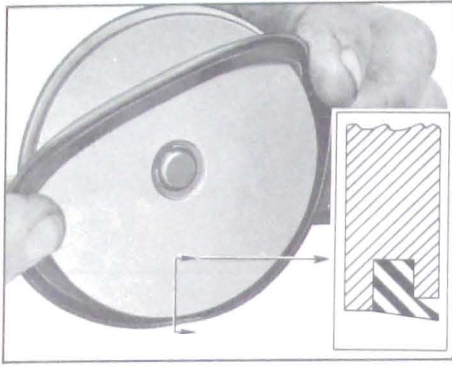

Figure 5-75—Installation of Servo Piston Seal
4. Worn or damaged piston seals should be replaced. When a new seal is installed on a piston make sure that the lip fits over the smaller diameter land. See Figure 5-75.